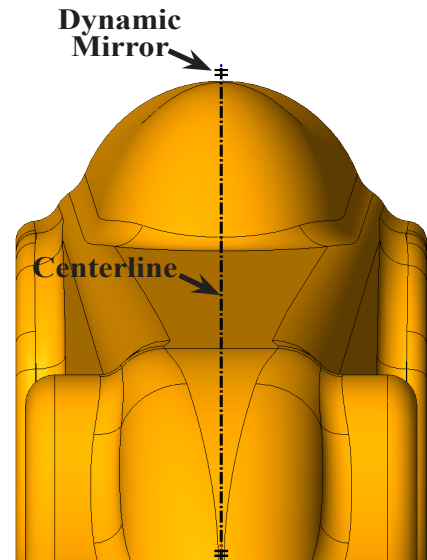

Fig. 140
Step 5. Starting from the **Origin**  at the bottom of the body, draw a vertical line up through the body and extend the centerline out past body, **Fig. 140**.
Step 7. Click the centerline to select it, **Fig. 140**.
Step 8. Click **Dynamic Mirror**  on the **Sketch toolbar** or **Tools Menu > Sketch Tools > Dynamic Mirror**, **Fig. 140**. Symmetry symbols appear at both ends of the centerline.